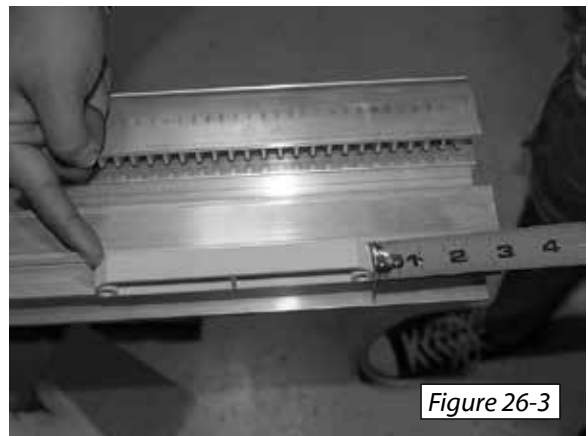

Figure 26-3
3. Position the end of the cam at 2-3/4" from the top of the rail. Secure the limit cams with (2) 10-24 screws and square nuts (provided). [Figure 26-3]